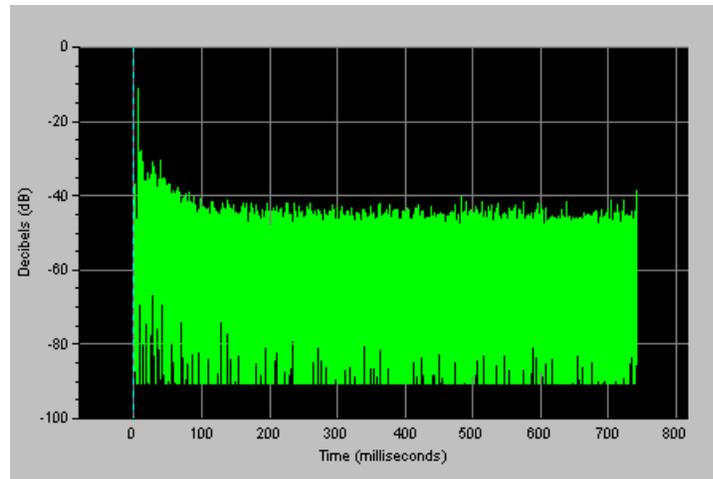
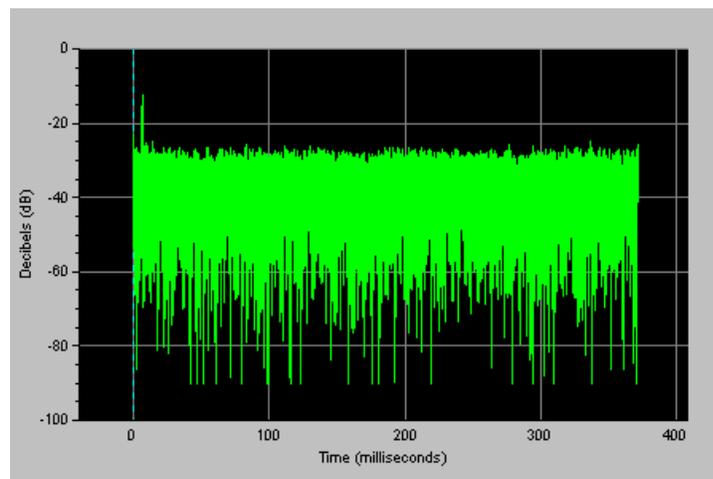

Figure 2: Typical impulse response of a small room. Note the prominent “spike” at approximately 6 milliseconds (near the left side of the trace).
Figure 7: An acoustic measurement with a poor signal-to-noise ratio
- Although no two rooms will have an identical impulse response, the result of an acoustic measurement (made using a microphone) will probably look something like *Figure 2* below when viewed using decibel (logarithmic) amplitude scaling.
A poor signal to noise ratio is also easy to detect when you know what to look for. *Figures 2 and 3* on page 3 show an acoustic measurement with good signal-to-noise. *Figure 7* below shows the same measurement with a very poor S/N ratio.
The only difference between this measurement and the way the measurement shown in *Figure 2* (on page 3) was made is the size of the *FFT Time Constant*. In, *Figure 2* the *FFT Time Constant* was set large enough to contain the entire impulse response of the room/system — using the analogy above, the “room” was large enough for rubber ball to continue in one direction until it exhausted its energy and gently rolled to a stop. In *Figure 8*, it was not.